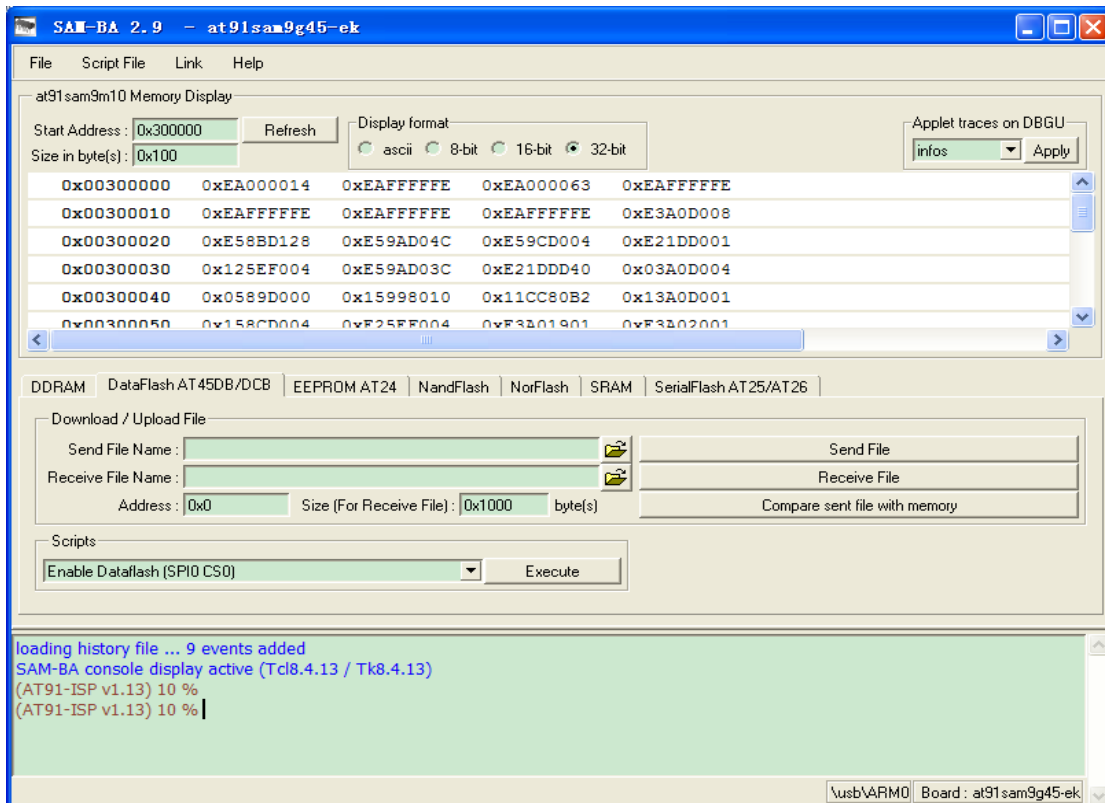

Figure 5-4
- (1) Complete chapter 5.2.1, 5.2.2, and double-click sam-ba v2.11. Refer to figure 5-4: